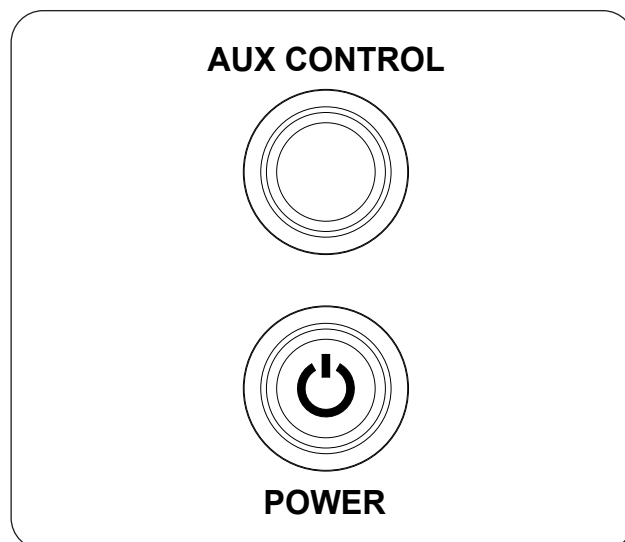

Fig. 46-1 Manual Operation:
1. Locate the control panel on the side of the unit (refer to the IDENTIFICATION PARTS LIST if needed), and identify the **AUX CONTROL** and **POWER** buttons (see Fig. 46-1).
**WARNING: If the pilot fails to light within 15 seconds, or if the burner fails to light within 15 seconds of pilot lighting, push the POWER button on the control panel to turn off. Allow five (5) minutes for any gas in the unit to dissipate, then repeat steps 1-2 above. IF YOU SMELL GAS, SEE STEP C ABOVE.**
**To shut down the burner (system will remain on)**, push the **AUX CONTROL** button (see Fig. 46-1).
**To shut down the burner and system (total shutdown)**, push the **POWER** button (see Fig. 46-1).